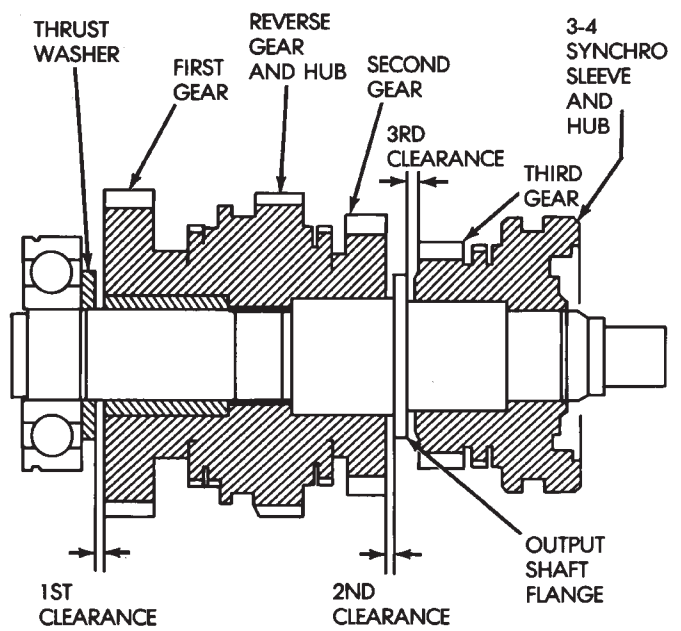

Fig. 62 Checking Output Shaft Gear Thrust Clearance
- (1) Measure thrust clearance of output shaft first, second and third gears with feeler gauge (Fig. 62).
- (2) If first gear thrust clearance is incorrect, replace gear and thrust washer. **If second or third gear**
- (3) Press fifth gear and rear bearing off rear of output shaft.
- (4) Remove thrust washer, pin, and first gear and bearing (Fig. 62).
If shaft flange thickness is OK but previously measured second/third gear thrust clearance was incorrect (Fig. 62), replace the necessary gear and needle bearing as an assembly.